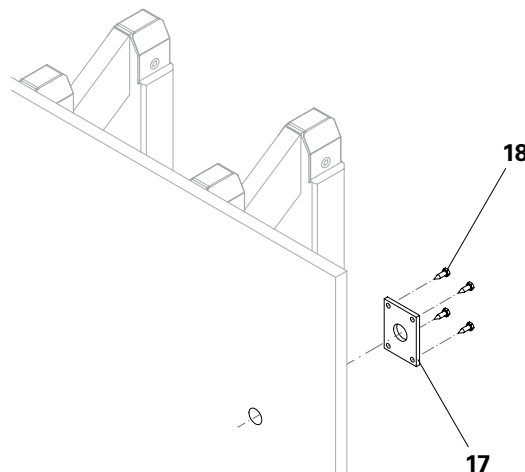

Fig. A2.21
3. Mount Anchor Positioning Plate M24 (**17**) on the rear of the form-lining using 4x wood screws DIN 571 6 x 20, SW 10 (**18**). (Fig. A2.21)